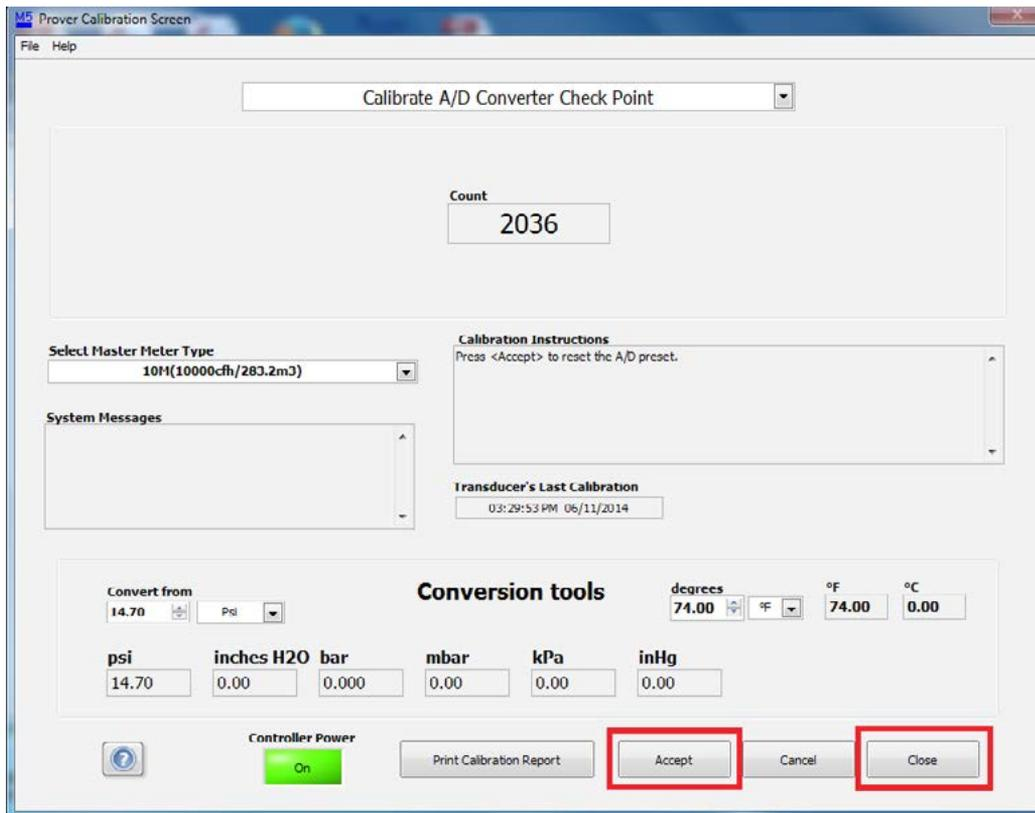

Figure 62: Prover Calibration Screen
- Click "Accept" to accept the current calibration. Then, click "Close" as shown in **Figure 62**.